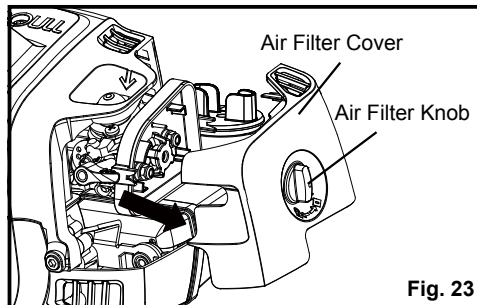

Fig. 23
- Rotate the air filter knob counter-clockwise and gently pull off the air filter cover (Fig. 23).